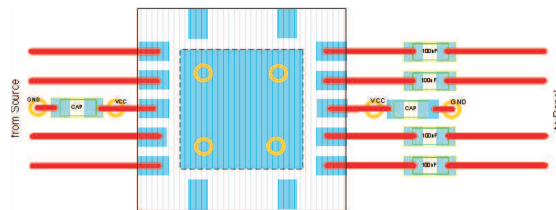

Figure 12. De-Coupling Layout Recommendation
- It is recommended to place the de-coupling cap as close as possible to the device and on the same side of the pcb (see Figure 12).